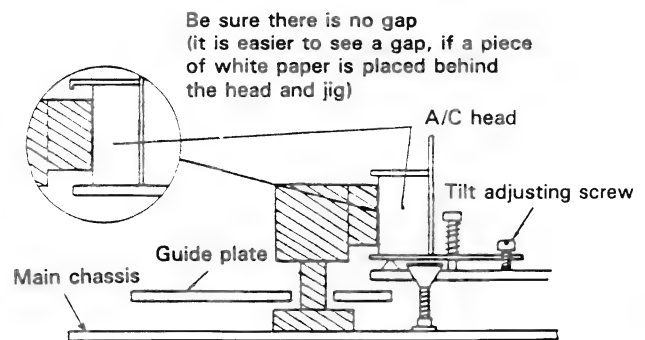

Figure 1-19.
2. Loosen the tilt adjusting screw ② by using a philips screwdriver.
3. Remove the azimuth adjusting screw ⑤ (3P + 8S) with a philips screwdriver.
4. Remove the A/C head screw ④ with a philips screwdriver, paying attention to the spring ⑦ between the A/C head screw ④ and A/C head assembly ①.
6. The A/C head assembly ① is attached so that the A/C head arm and A/C head plate stand are roughly parallel to one another.
7. Set the A/C head tilt according to Fig. 1-19.
2. Set the tilt angle of the audio/control head as shown in Fig. 1-19.